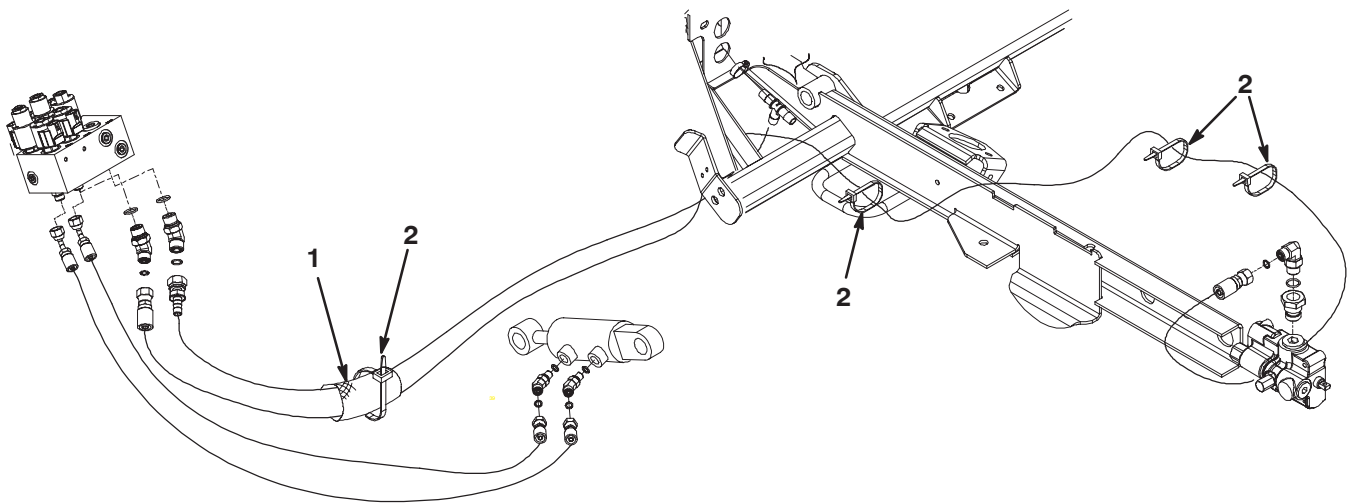

Figure 16
22. Insert the protective sleeve onto these hoses and secure with three cable ties (Fig. 16).
33. Route the long manifold hose forward, under the radiator frame, over the frame cross member and along the frame rail back to the valve (Fig. 16).
34. Secure the hose fitting to the valve fitting (Fig. 16).